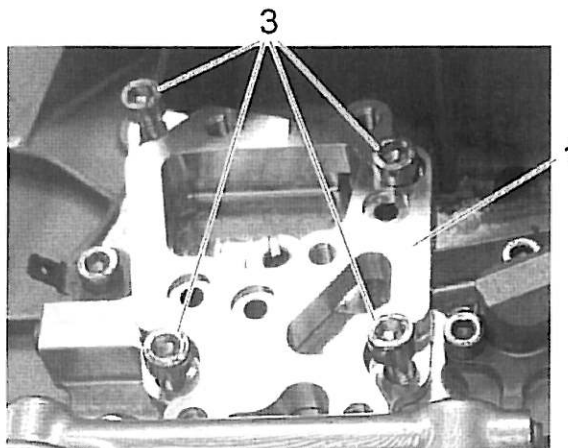

Figure 10
6. Attach the adaptor plate (item 1) to the ground plate with the four screws (item 3) that were prepared with Loctite 243 in working step No. 5. See Figure 10.